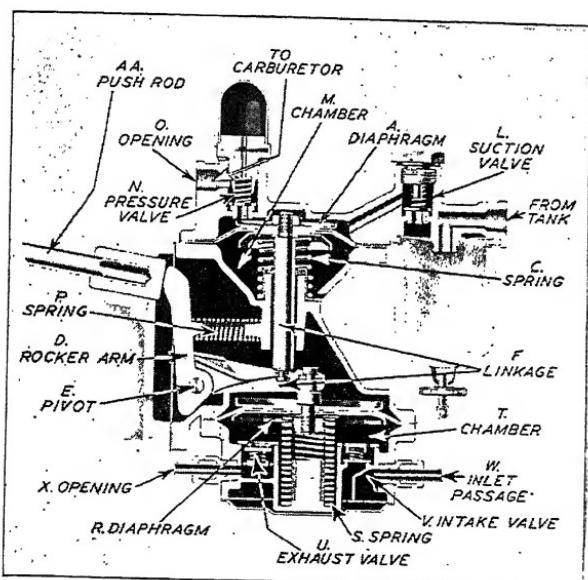

Fig. 9. Combination Fuel and Windshield Wiper Vacuum Pump
**Fuel Pump.** The type "I" AC combination fuel and vacuum pump is used on the 34-50 series and is mounted on the right side of the crank case, being driven directly by an eccentric on the crank-shaft through a push rod *AA*, Fig. 9, supported in bosses in the crank case. If necessary to remove the push rod, first remove the cover plate. In doing work on this type of equipment, cleanliness and good tools are prime essentials.
**Gasoline Pump.** The operation of the gasoline pump unit is as follows. The rotation of the eccentric on the camshaft actuates the rocker arm *D*, Fig. 9, (through an operating rod on 34-60 and 34-90 series) pivoted at *E* which pulls the linkage *F* and in turn the diaphragm *A* downward. The downward movement of the diaphragm *A* creates a vacuum in the chamber *M* which draws fuel through the suction valve *L* in the outlet of the fuel filter. On the return stroke of the rocker arm *D*, the spring *C* moves the diaphragm *A* upward, forcing fuel from the chamber *M* through the pressure valve *N* and opening *O* to the carburetor. When the carburetor bowl is filled, the carburetor float closes the inlet needle valve which
**Windshield Wiper Vacuum Pump.** The operation of the vacuum pump unit is as follows. The rotation of the camshaft eccentric operates the rocker arm *D*, Fig. 9, pivoted at *E*, which pushes the link *F* and in turn the diaphragm *R* downward, expelling the air in chamber *T* through the exhaust valve *U* and opening *X* to the intake manifold. On the return stroke of the rocker arm *D* the spring *S* moves the diaphragm *R* upward, creating a suction in the chamber *T*, opening intake valve *V*, drawing air through inlet passage *W* from the windshield wiper. When the windshield wiper is not being used, the manifold vacuum holds the diaphragm *R*